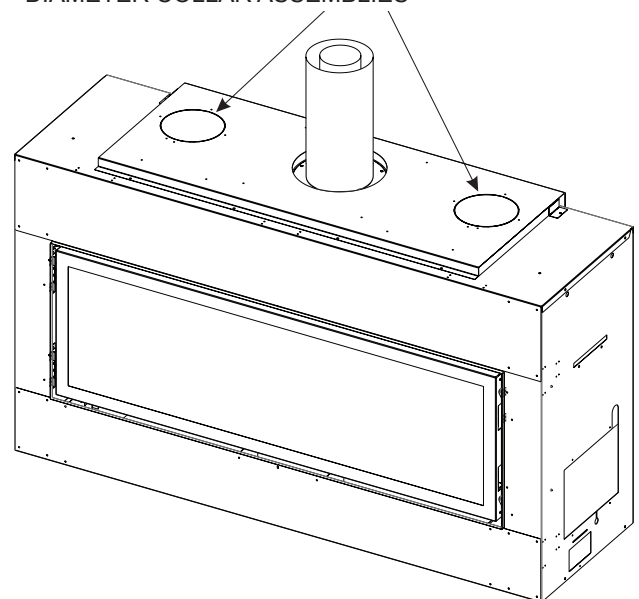

Figure 9
10. Remove the (2) knockout holes on top of the fireplace that are located to either side of the vent system. Use a standard screwdriver and/or sheet metal snips to remove these knockouts. **See Figure 9.** Both vent openings must be used with the HMGW Heat Transfer System.